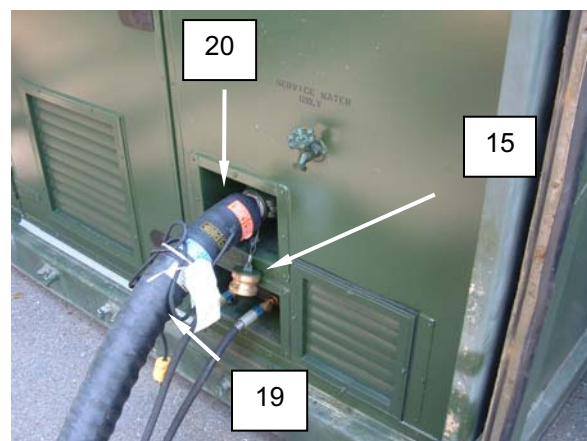

Figure 7. Set Up the Source Water 3000-Gallon Water Tank.
4. Lay out the 2-in. x 20-ft cold water supply hose (**Figure 7, Item 19**) from the water inlet connection (**Figure 7, Item 20**) on the service panel at the washer end of the CBL to the connector on the water shutoff valve (**Figure 7, Item 16**).
5. Remove the dust cap (**Figure 7, Item 15**) from the hose and water inlet connection (**Figure 7, Item 20**) on the service panel and connect hose (**Figure 7, Item 19**). Remove the dust cap from the hose and connect the hose to the connection on the water shutoff valve (**Figure 7, Item 16**).
6. Fill the water bag (**Figure 7, Item 3**) with water from an approved source.
7. Open the water shutoff valve (**Figure 7, Item 16**).